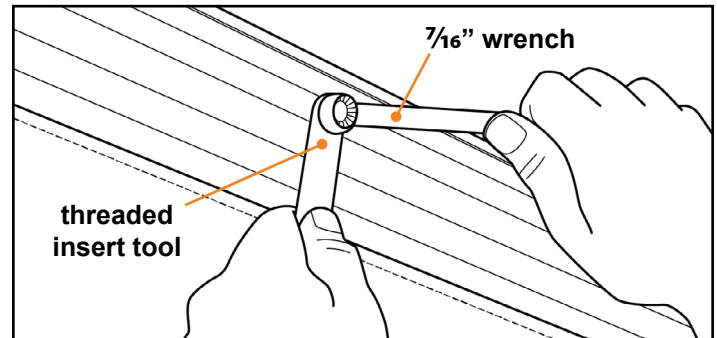

Fig.41
7. Tighten the bolt to set the threaded insert fastener with the $\frac{7}{16}$ " wrench while holding the threaded insert tool stationary (Fig.41).